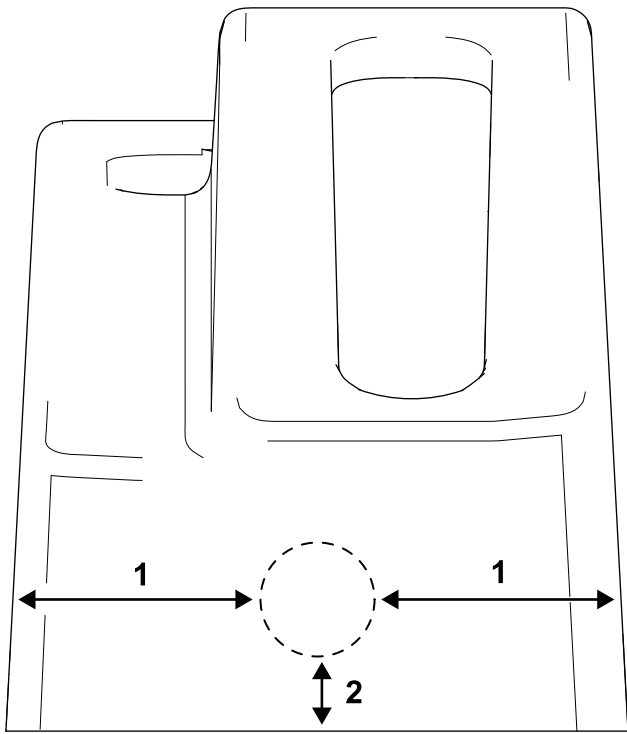

Figure 2
3. Drill a hole (3 cm or 1-3/16 inches) into the front of the cover as shown in Figure 2